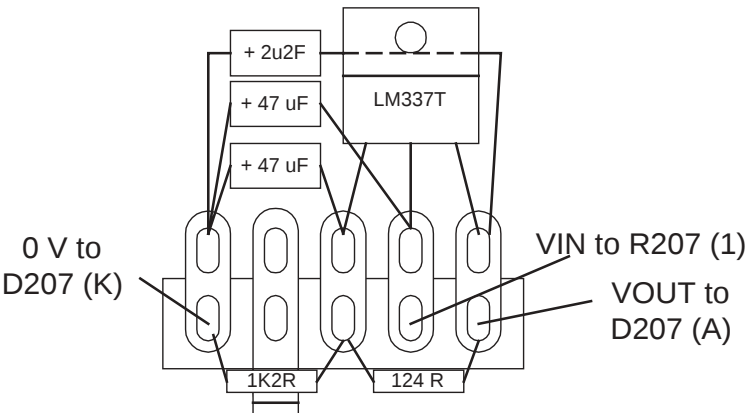

FIGURE 4: A guide for parts placement.
- Refer to Fig. 4 or Fig. 5 to read the value of Z, at the same $f\theta$ used in steps 3 and 4.